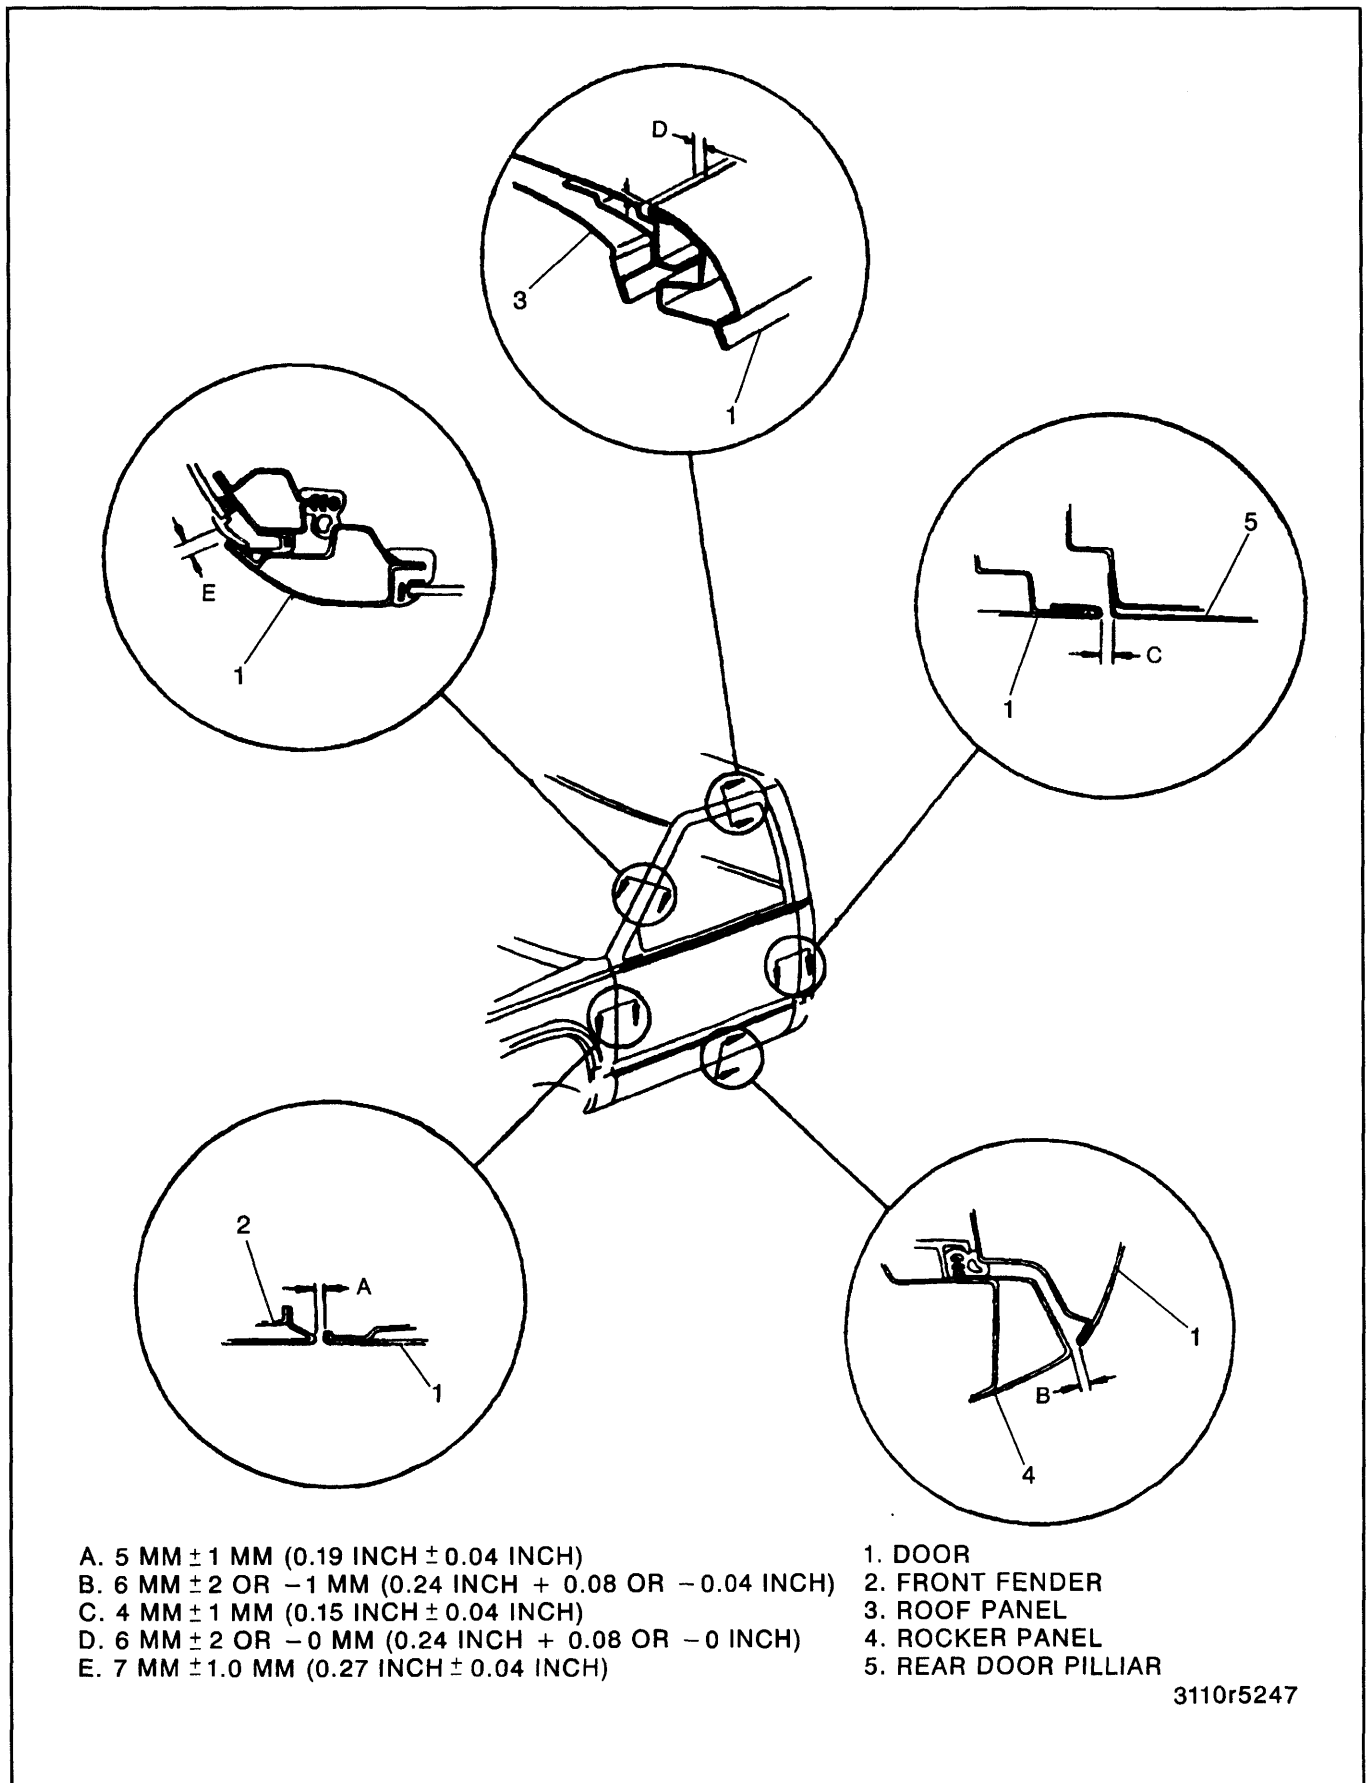

Figure 7—Door Adjustment
Remove or Disconnect (Figures 7 and 8)
Adjust (Figure 7)
2. Gap between the rocker panel and the door to the specifications shown in figure 7.